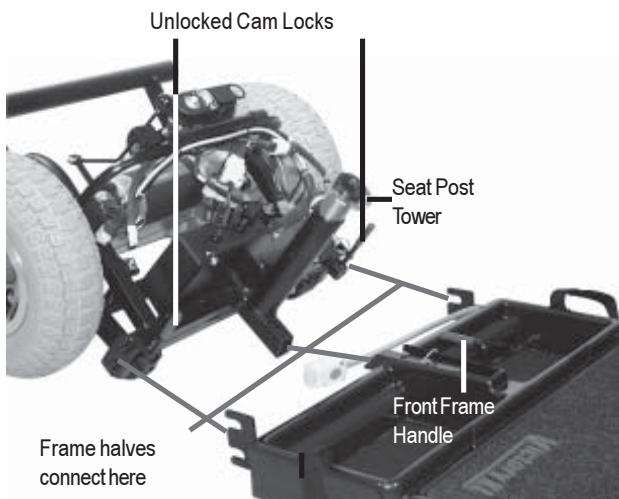

Figure 15. separate front and rear sections
10. Move the cam locks to the unlocked, vertical position. See figure 15.
2. Position the front and rear sections of your Victory XL as shown in figure 15.